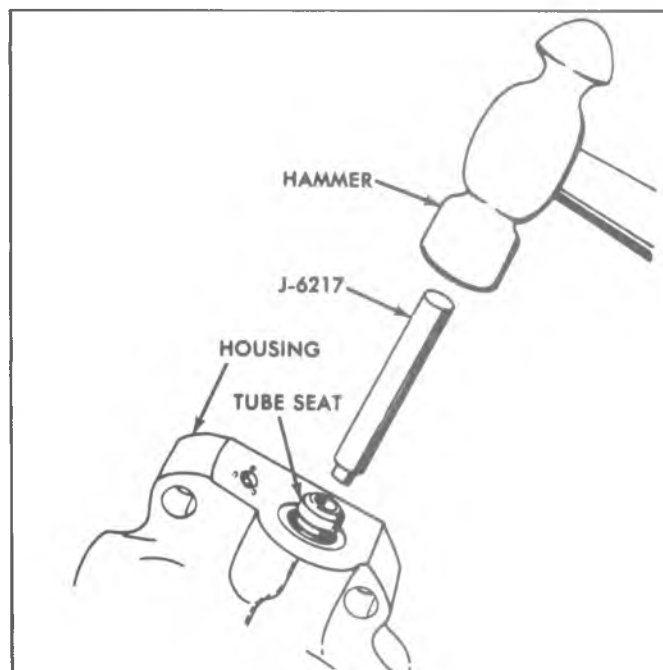

Fig. 5-55--Installing Tube Seat Using J-6217
6. Install tube seat with Tool J-6217 as shown in Figure 5-55.